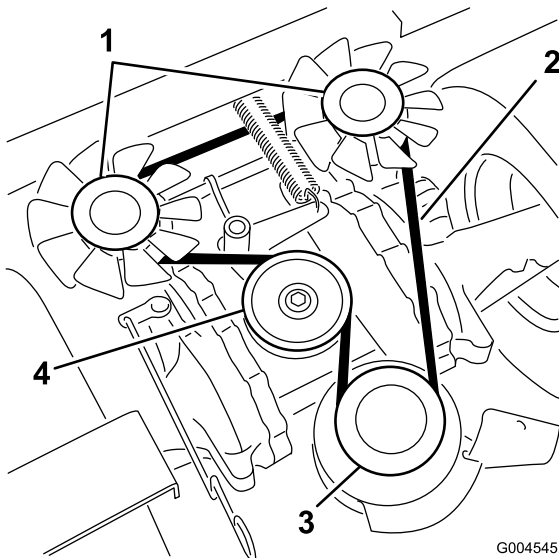

Figure 45
3. To replace the belt, remove the bolt from the clutch stop and unplug the clutch electrical wire (Figure 45).
4. Pull on the idler pulley to relieve the belt tension on the idler pulley (Figure 45).
5. Remove the pump drive belt from the engine and the hydraulic pump pulleys (Figure 45).
6. Install the new belt around the engine and the hydraulic pump pulleys (Figure 45).
8. Release the pressure on the spring loaded idler (Figure 45).